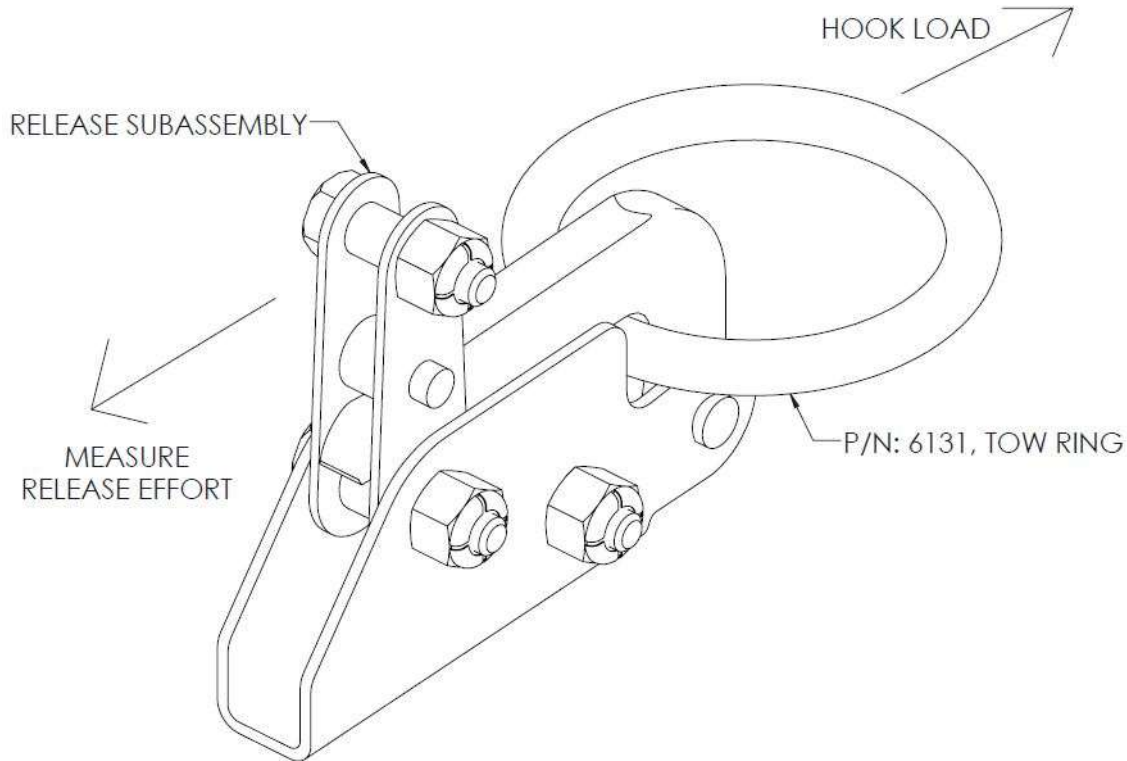

Figure 2.2: No Load Hook Release Test
\*the Pacific Aerial Tow Ring, P/N: 6131, must be latched in the tow hook for the test as shown in Figure 2.2.
- (3) Engage the Tow Hook Assembly with the Tow Ring in place as seen in Figure 2.2.
- (4) Attach a calibrated spring scale, or similar force measuring device, to the release cable at the Release Subassembly.
- (5) Pre-load the spring scale to read less than the required test force. An improvised lever may be needed to hold and stabilize the spring scale in place.
- (6) While the pilot activates the release handle, observe the spring scale reading.